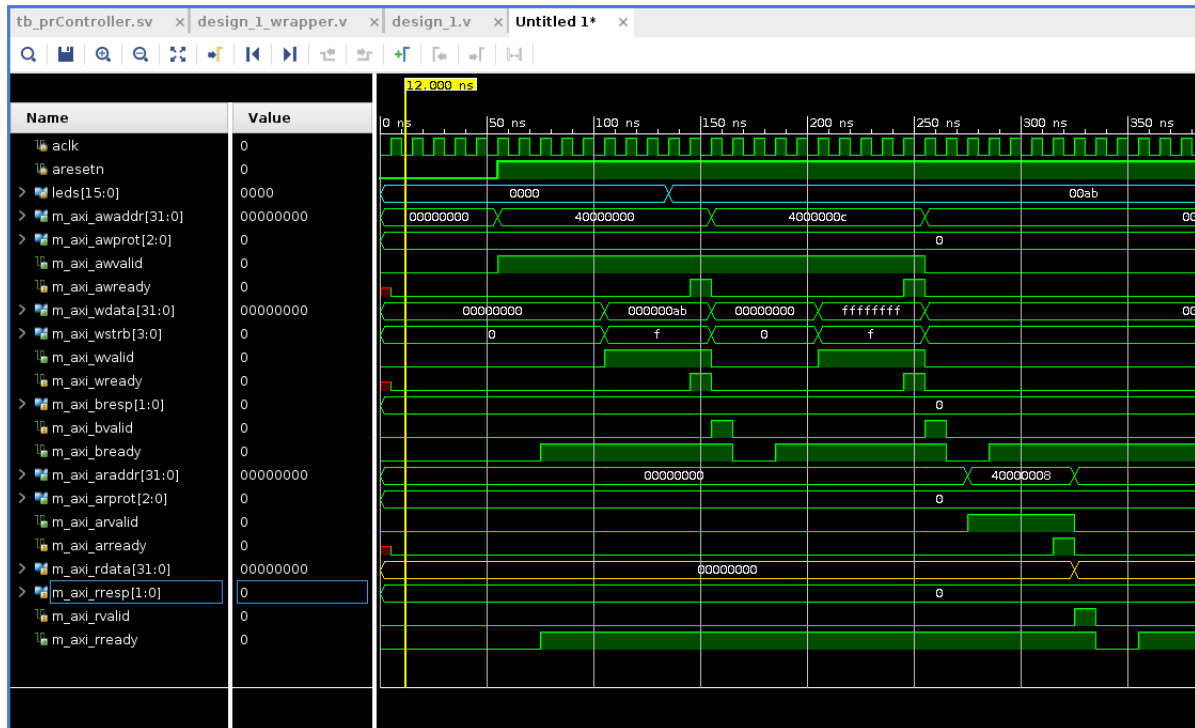
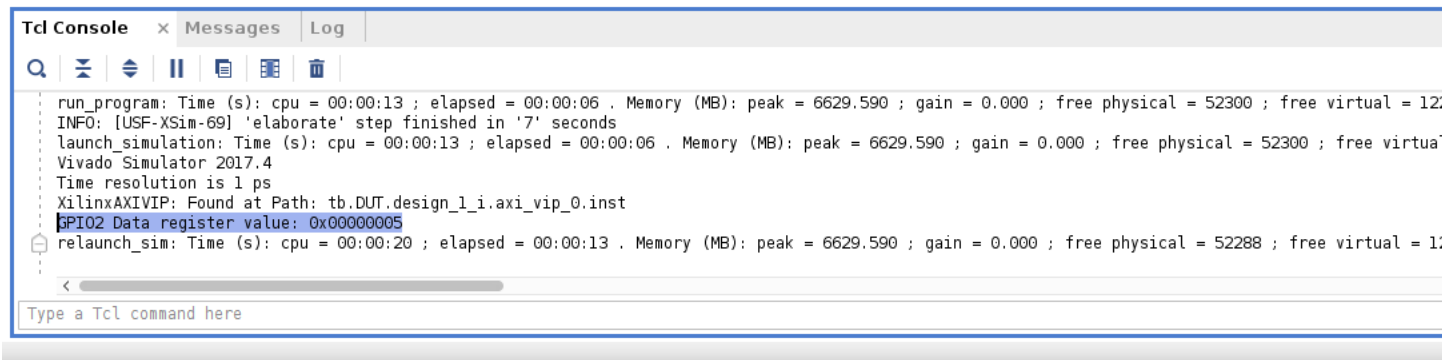

Figure 17: Simulation waveform.
Figure 18: Tcl console print out of register.
3. Analyze the tb results. The waveform should look like Figure 17. In the *Tcl Console* you should see *GPIO2* returning *0x00000005*, as seen in Figure 18.